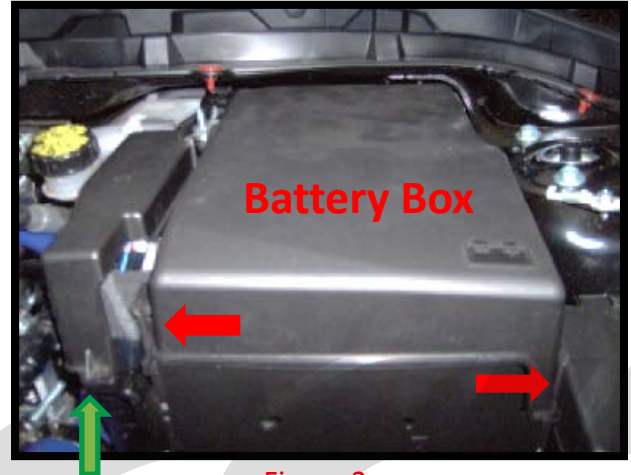

Figure 2a
- k) Install the battery box top back onto the battery box (Figure 2a).
- a) **Remove the battery box cover.** The cover is held on with two clips (shown with **red arrows** in **Figure 2a**). Pry the clips outward by hand and lift the front of the lid off of the box.
- k) **Install the battery box top back onto the battery box** (Figure 2a).